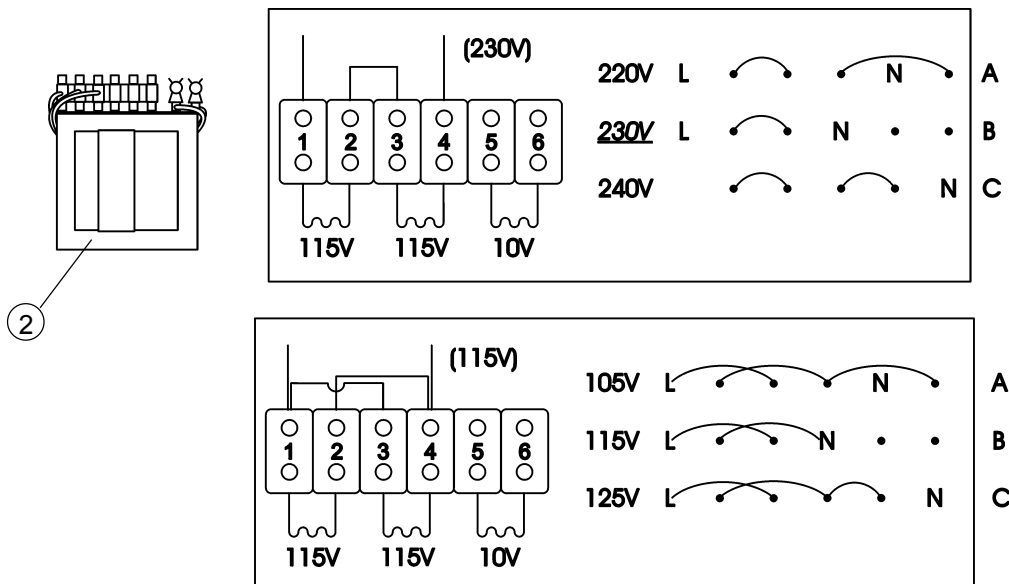

Figure 4
3. Check the transformer (2) tapping for the correct configuration, figure 4.